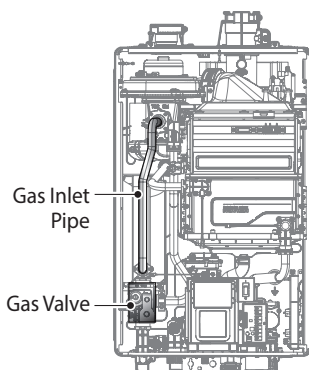

Figure 2. NPE-A2/S2 Series
3. Once the front cover is removed, place it in a safe location to prevent accidental damage. With the internal components exposed, locate the gas inlet pipe and the Gas Valve near the left side of the unit which are highlighted in Figure 2.